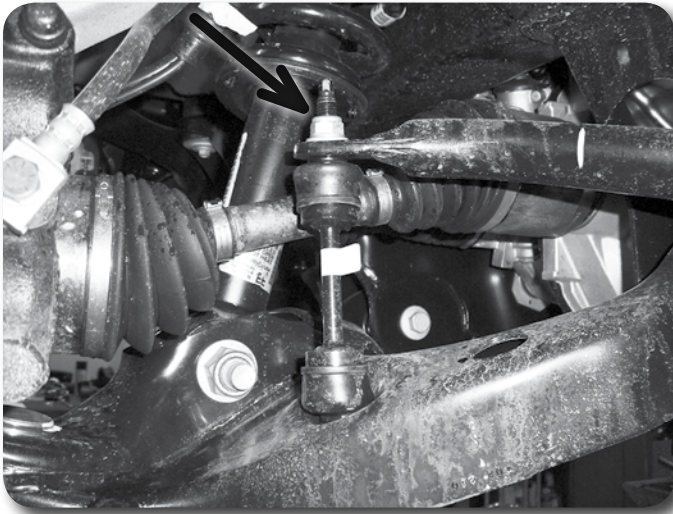

Figure 5
11. Disconnect the sway bar links from the sway bar **Figure 5**. Retain hardware. The sway bar links do not need to be removed from the lower control arms.